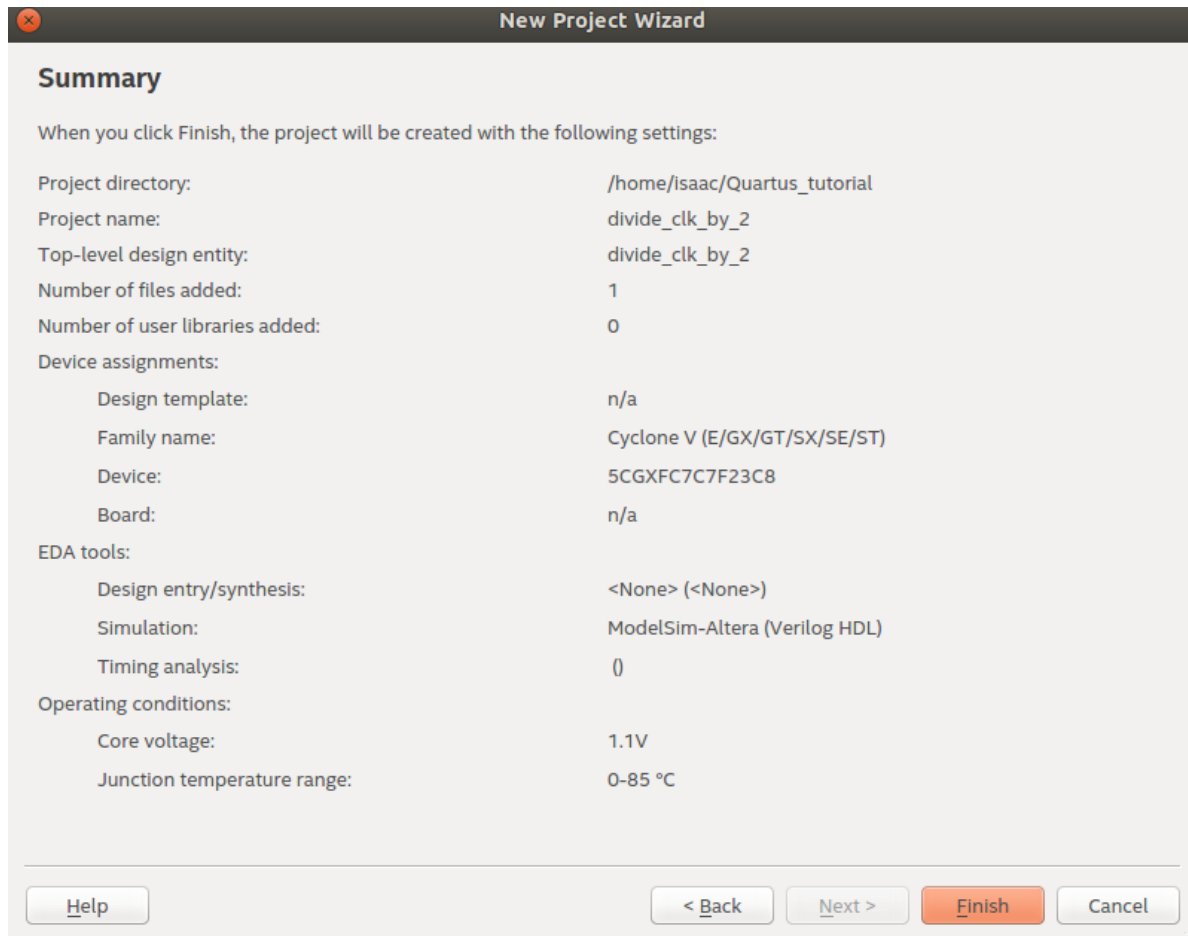

Figure 23: Project summary.
9. Finally, Quartus will prompt you with a summary of the project configuration. Click on **Finish** as shown in Figure 23.